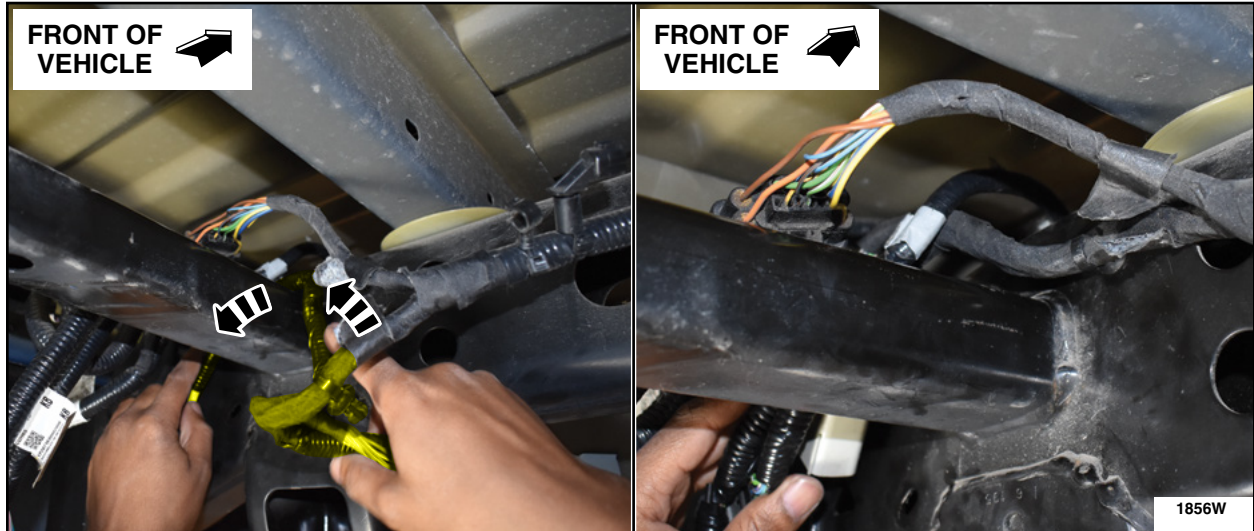

FIGURE 78
24. Route the male end of the *new* jumper pigtail, C405 and C408 halves under the attached wire harness and over the frame. See Figure 78.